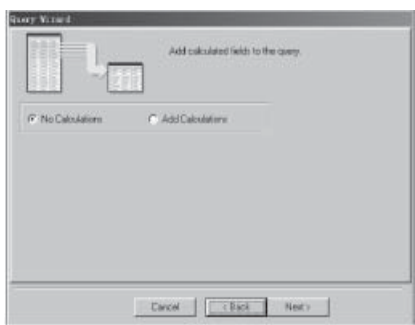

Fig. 8-7 Select the Calculating Fields
2.5 Select the Grouping Fields as in Fig. 8-7. 'No Grouping' means no grouping fields and 'Select Grouping Fields' means adding grouping fields. And then click the 'Next' button.